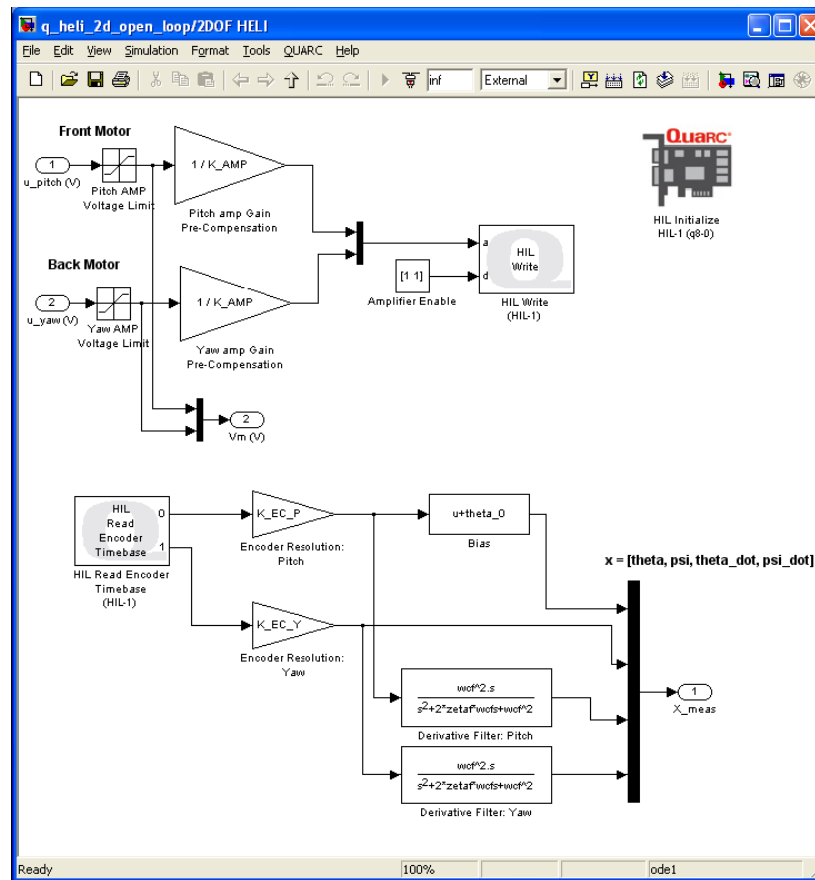

Figure 5: 2DOF HELI subsystem contains QUARC blocks that interface with hardware
6. **Configure DAQ:** Double-click on the HIL Initialize block in the Simulink diagram and ensure it is configured for the DAQdevice that is installed in your system. By default the block shown in Figure 5 is setup for the Quanser Q8 hardware-in-the-loop board.